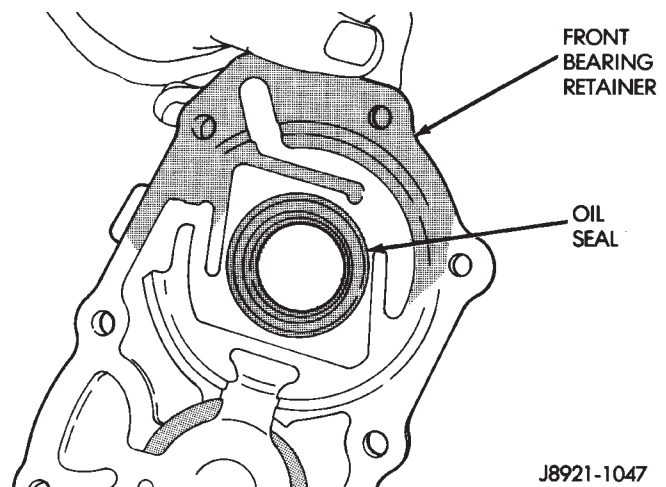

Fig. 17 Front Bearing Retainer Seal Location
(2) Remove retainer oil seal with pry tool (Fig. 17).